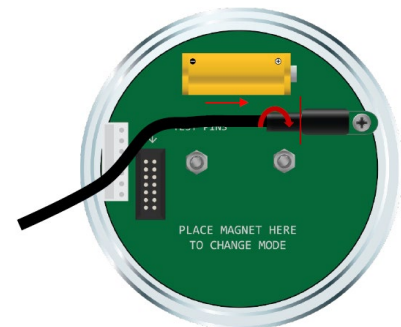

Figure 3.4.3a Fiber connected to Gauge Optic Receiver
4. Tighten the compression nut securely. (See Figure 3.4.3a)